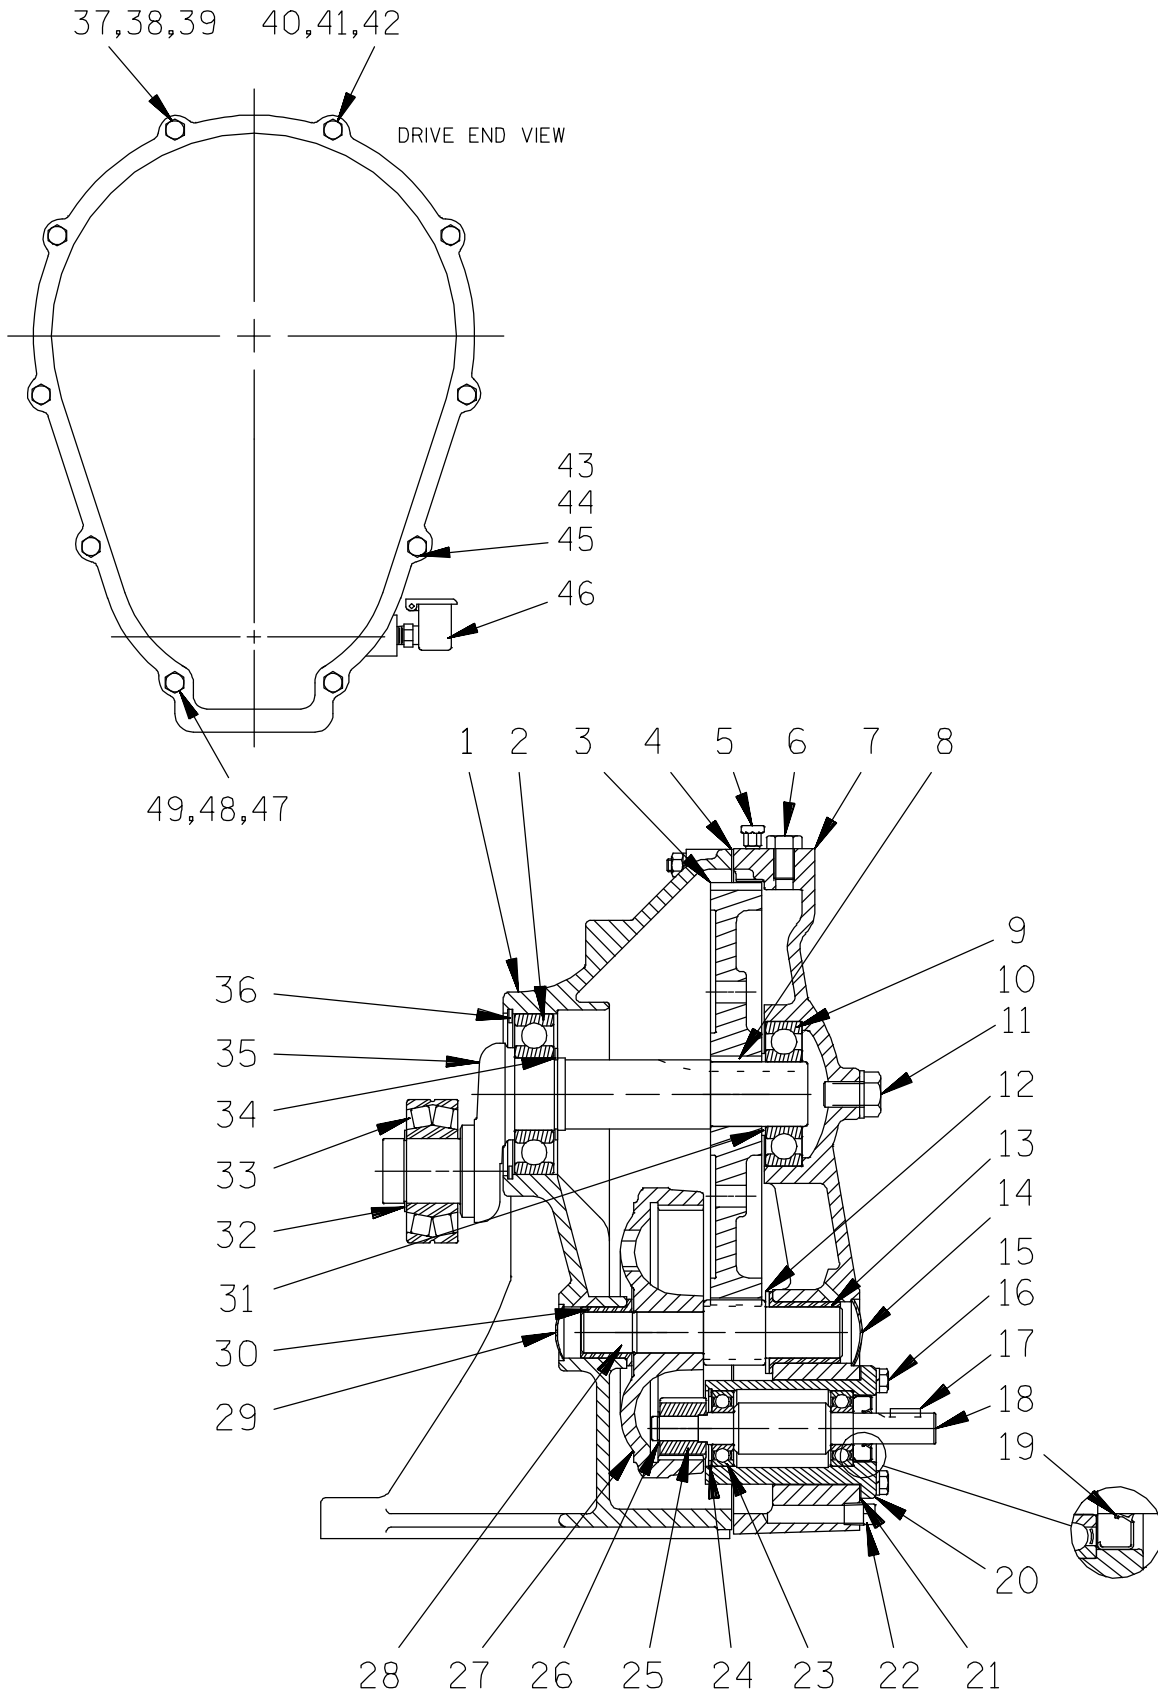

Figure 4. Gearbox Assembly
Loosen the hardware (2, 3 and 4) and remove the end cap (27, Figure 1). Slide the bearing cap (1) off the crankshaft roller bearing (33, Figure 4), and remove the plunger rod assembly.
Disengage the hardware (19, 20, 21 and 22) and remove the coupling guard (4). Loosen the hardware securing the drive shaft coupling (1). Separate the gearbox assembly from the coupling by pulling straight away. Remove the shaft key (17, Figure 4).
(Figure 4)